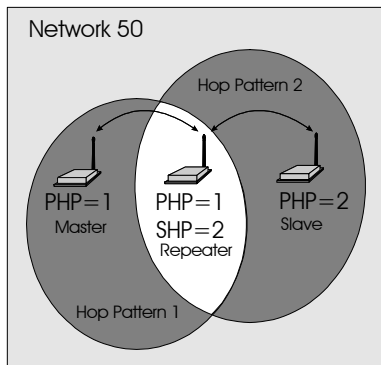
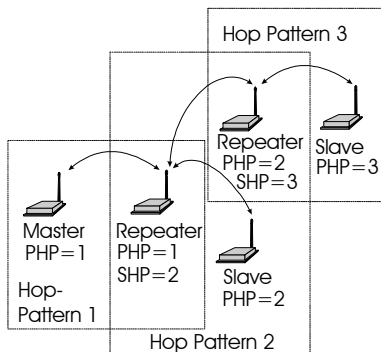

Figure 7 - Repeater Operation
Figure 8 - A Network Utilizing Three Hopping Patterns
4) Repeater. A more precise title would be Repeater/Slave, because a Repeater also has much of the same functionality as a Slave. A terminal can be connected at the Repeater location and communicate with the Master terminal. There is no restriction to the number of Repeaters in a network, allowing for communication over virtually limitless distances. The presence of one Repeater in a network automatically degrades system throughput by half. Additional Repeaters, regardless of the quantity, do not diminish system throughput any further. To understand Repeater operation, consider the module as belonging to two hopping patterns at the same time: The Primary Hopping Pattern and the Secondary Hopping Pattern. In Figure 7, the Master belongs to Hopping Pattern 1, and communicates with the Repeater on this hopping pattern. The Slave belongs to Hopping Pattern 2, and communicates with the Repeater on this hopping pattern. The whole system belongs to Network 50 (i.e., all units must be assigned the same Network Address (S104), which in this case was selected to be 50. Note that Slaves and Master only communicate on their respective Primary Hopping Pattern. Repeaters communicate on the Primary Hopping Pattern when communicating with the Master (or with another Repeater between itself and the Master). Repeaters communicate on their Secondary Hopping Pattern when communicating with Slaves (or with another Repeater between itself and the Slaves). Figure 8 shows another example.